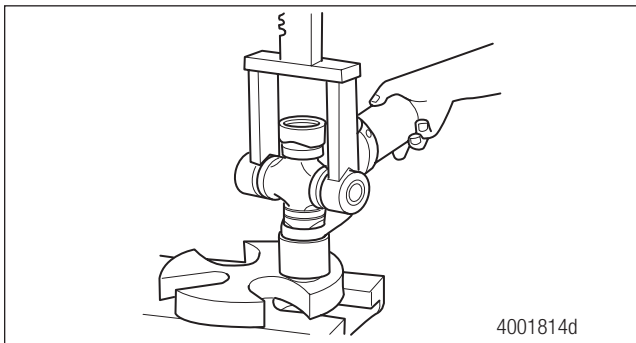

Figure 9.5
3. Rotate the shaft 180 degrees. Repeat the procedure for the opposite side of the universal joint. Figure 9.5.